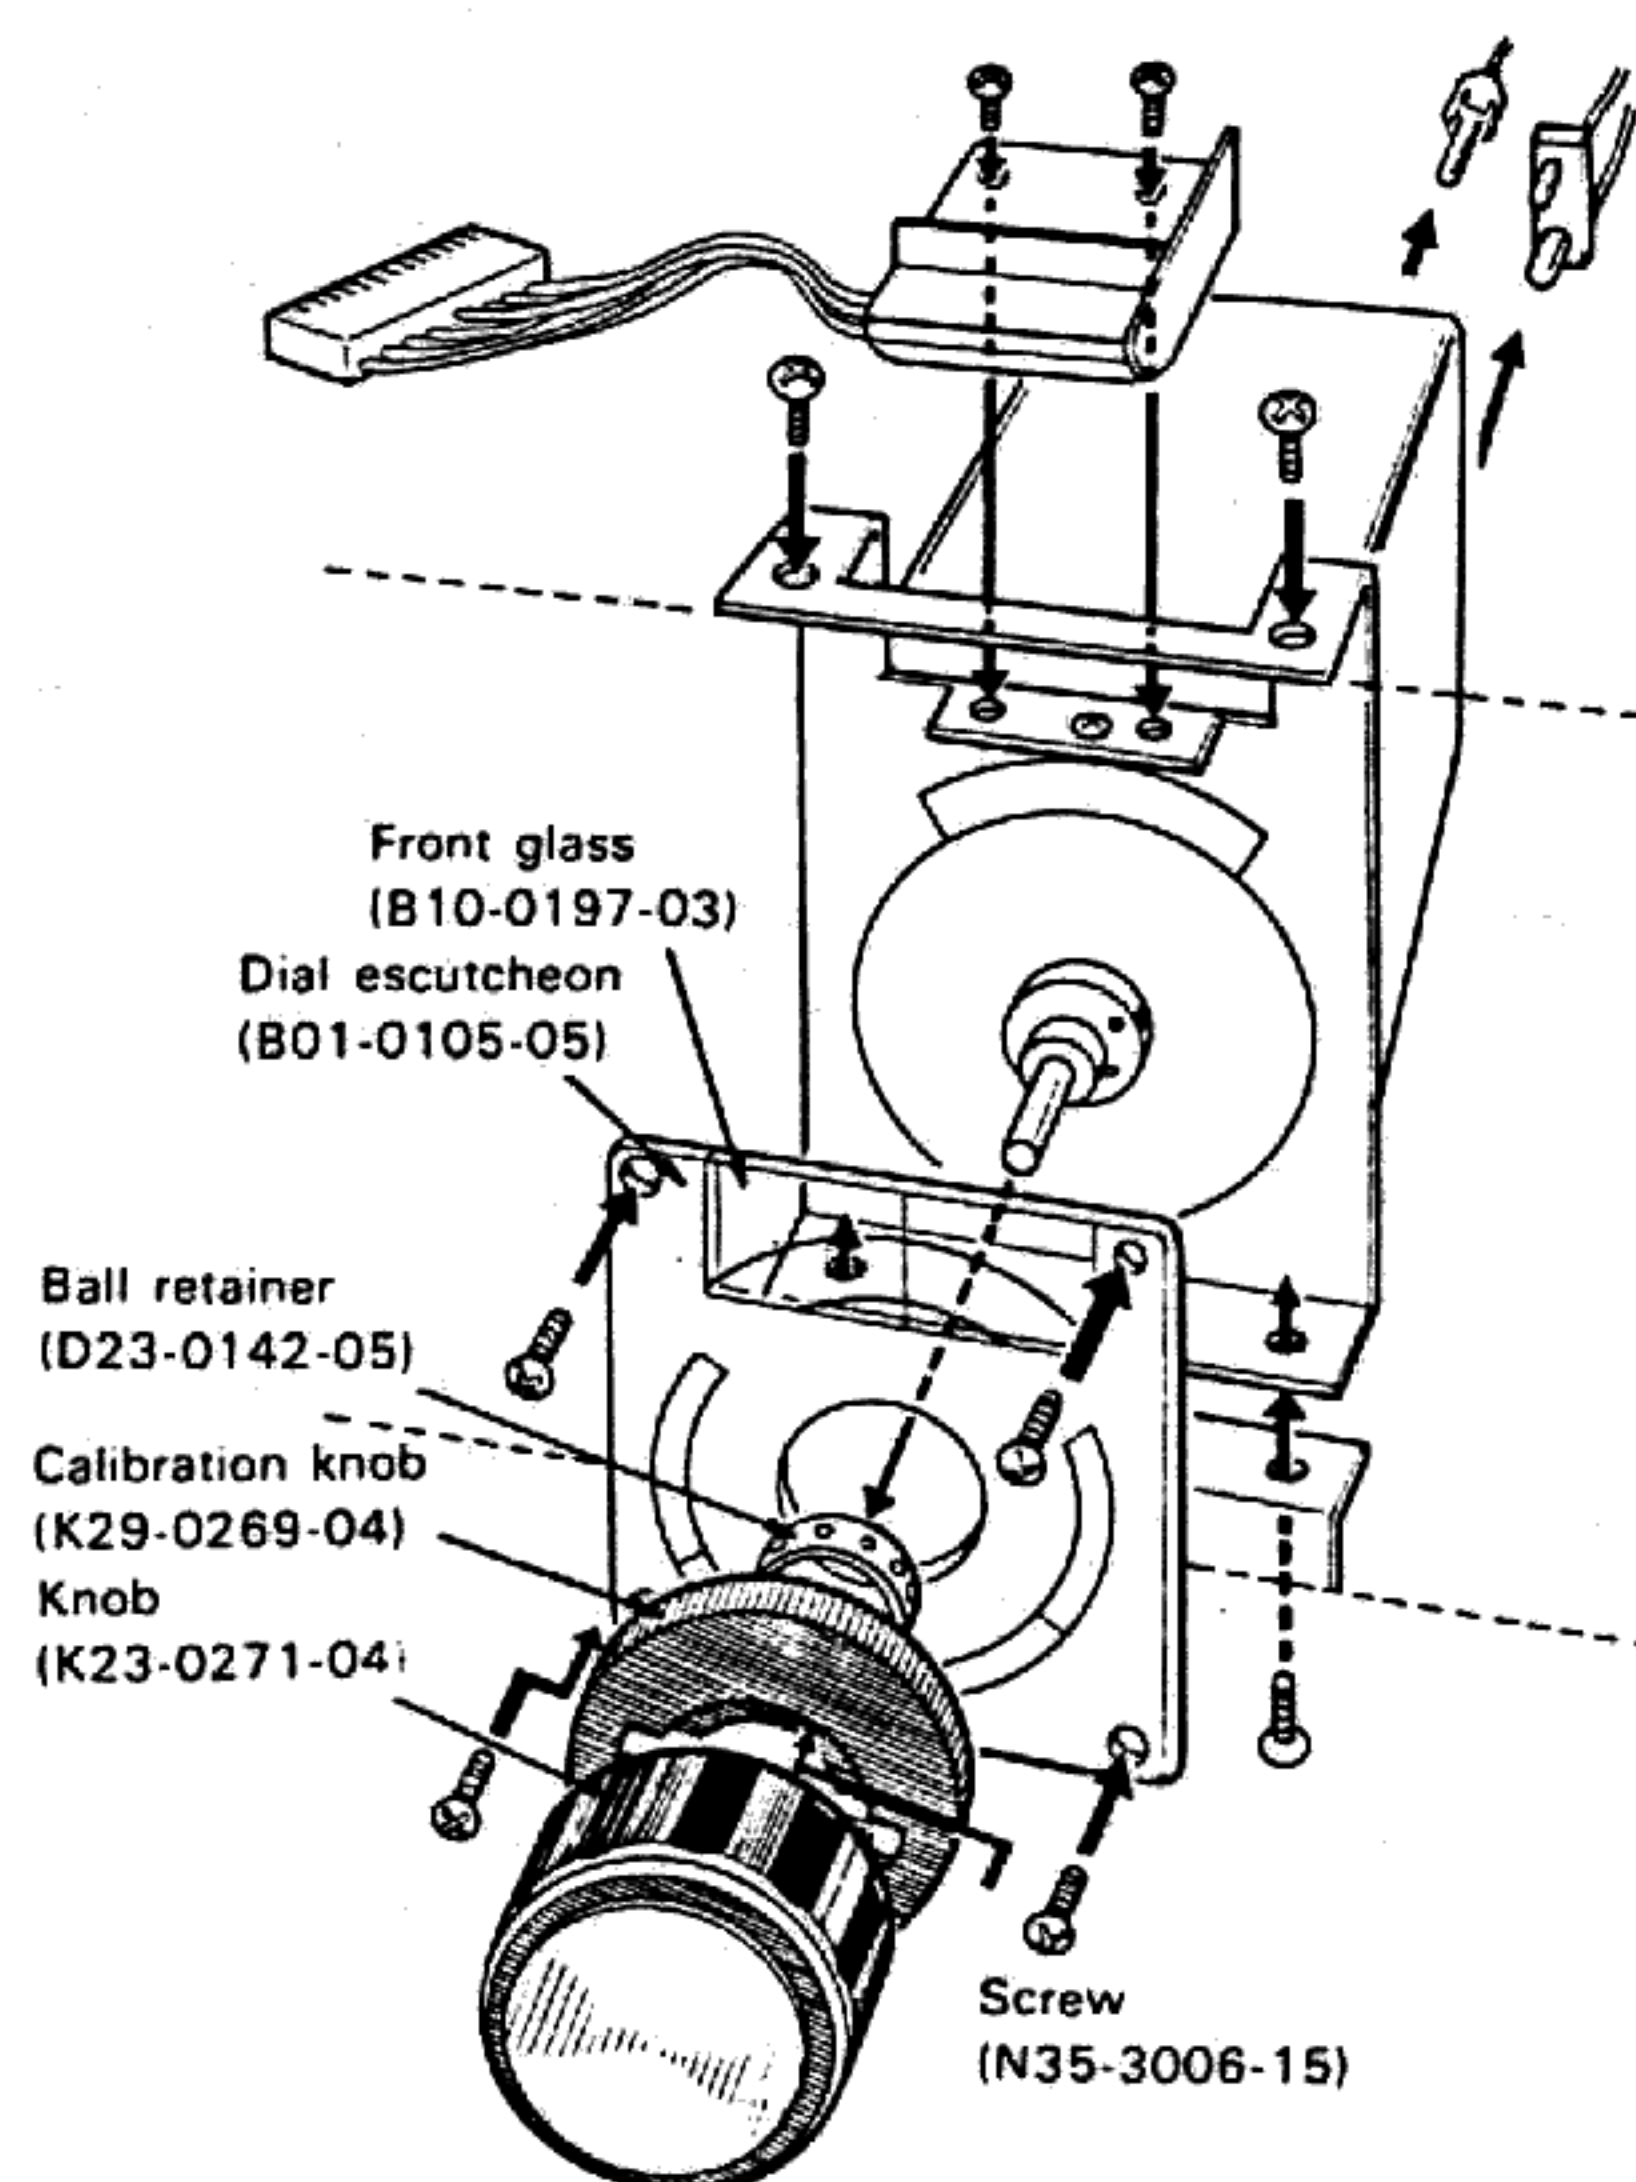

Fig. 14 Removing VFO
- 2) Remove the dial escutcheon and front glass according to Fig. 14.
- 3) Remove the four mounting screws from the VFO unit and subchassis of the body front according to Fig. 14.
- 1) Remove the knob and dial escutcheon as shown in Fig. 14.
- 6) Install the dial escutcheon and knob as shown in Fig. 14.